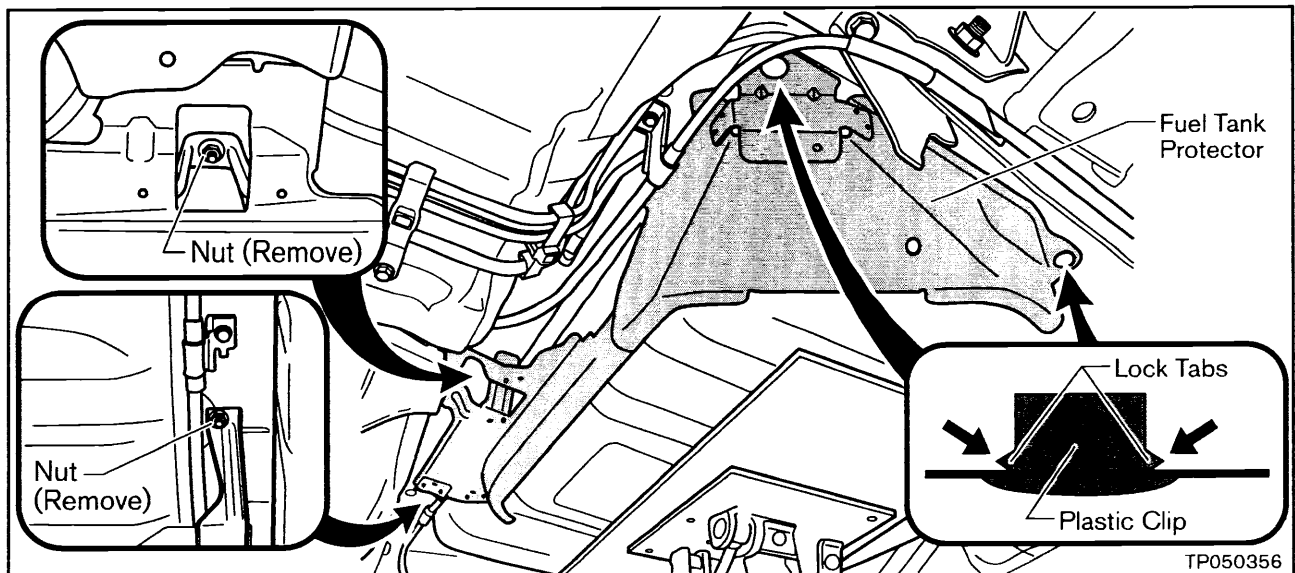

Figure 11
- a. Remove two Nuts and two Plastic Clips that hold the Fuel Tank Protector (see Figure 11).
- To remove the Plastic Clips, press IN on the Lock Tabs (see Figure 11).